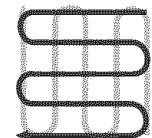

Fig. 4-7
- When preparing a seedbed, go over the same path twice in the first row, then overlap one-half the tiller width on the rest of the passes (see Fig. 6). When finished in one direction, make a second pass at a right angle, as shown in Fig. 4-7. Overlap each pass for best results (in very hard ground, it may take three or four passes to thoroughly pulverize the soil.)